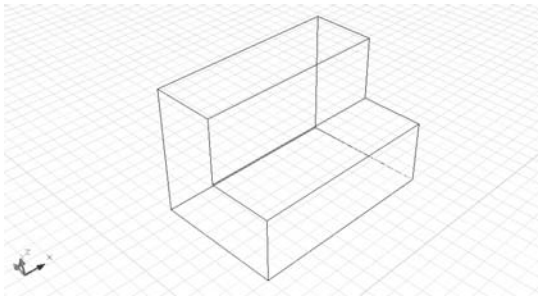
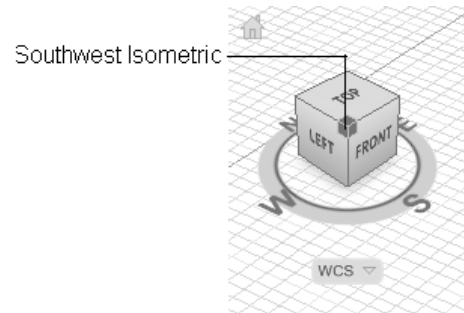

Figure 25-30 Final 3D model for Example 1
Figure 25-31 ViewCube showing Southwest Isometric
15. The final model should look similar to the one shown in Figure 25-30. You can also get a similar view of this model using the ViewCube. The view shown above is **Southwest Isometric**. Using the compass on the ViewCube, you can get the Southwest view of the solid model. The Southwest view of the model has three hotspots, bottom, edge, and top. You need to select the top hotspot to get the view similar to the above. Refer to Figure 25-31 for the Southwest hotspot. However, you can check different hotspots and view the model in different angles using the ViewCube.